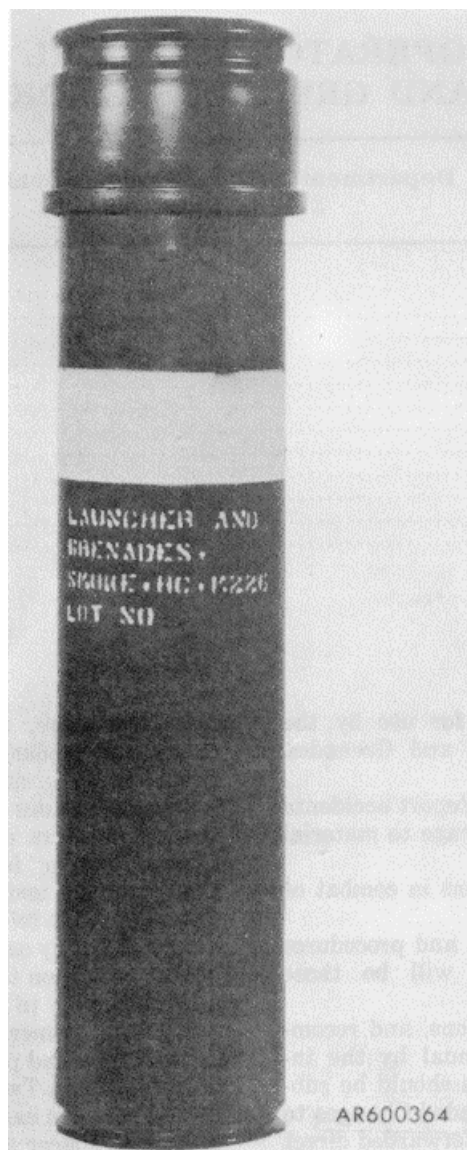

Figure 1. M226 grenade launcher.
3. Description. The M226 grenade launcher (fig. 1) consists of a cylindrical plastic tube which houses one
7. Marking. a. M1226 Grenade Launcher. The tube of the M226 grenade launcher is painted olive drab and has one light-green band (fig. 1). LAUNCHER AND GRENADES, SMOKE: HC, M226 and LOT NO. are marked in light green on the tube below the band.